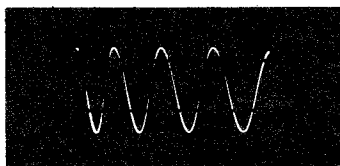

Figure 1
- ( ) Set the SYNC. SELECTOR switch to the +INT. position, the HOR. GAIN control to 30, the VERT. INPUT switch to X10, and the VERT. GAIN control to 100. Now set the HOR./FREQ. selector to the dot between 10 and 100, and adjust the FREQ. VERNIER to obtain a pattern consisting of four complete sine waves similar to that shown in Figure 1. This check indicates that the sweep generator is operating normally at a frequency of  $60/4$ , or 15 cycles per second. Reduce the HOR. GAIN setting if necessary. The breaks in the trace are caused by the fields of the power transformer. This will not be present with external signals.